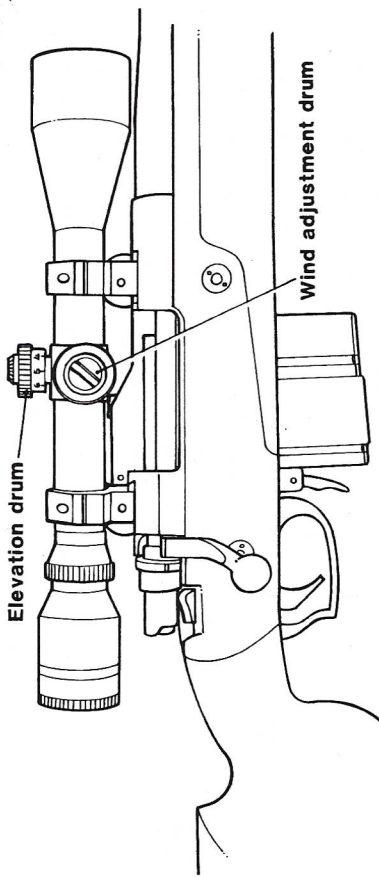

FIG. 8. TELESCOPIC SIGHT
3.6.3 TELESCOPIC SIGHT (Fig 8) A choice of telescopic sights is available. The model illustrated is a 6 x 44 special purpose scope calibrated for the 146 gr. NATO bullet. It is secured to the body dovetails by clamping screws which are also provided with a 'coinslot' for additional security.